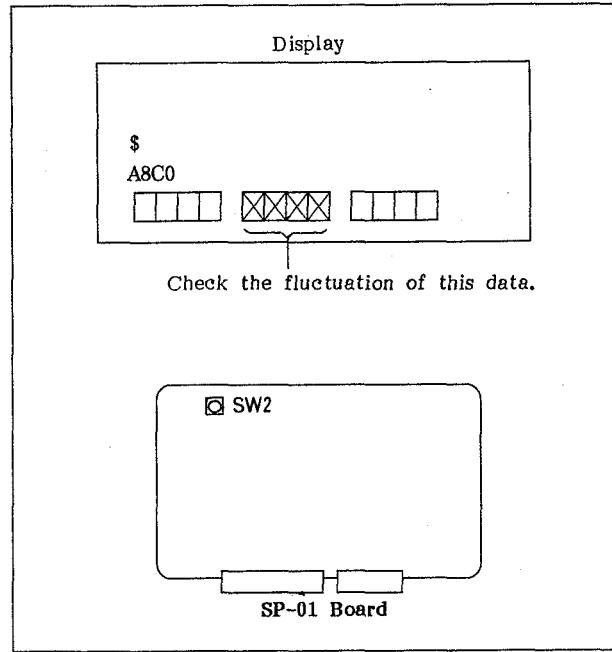

Fig. 9-10 Tape Speed Adjustment
3. Adjust the value indicated at the place on the display of the upper portion of Fig. 9-10 marked by X by using the **<** or **>** key so that it fluctuates around 0000.